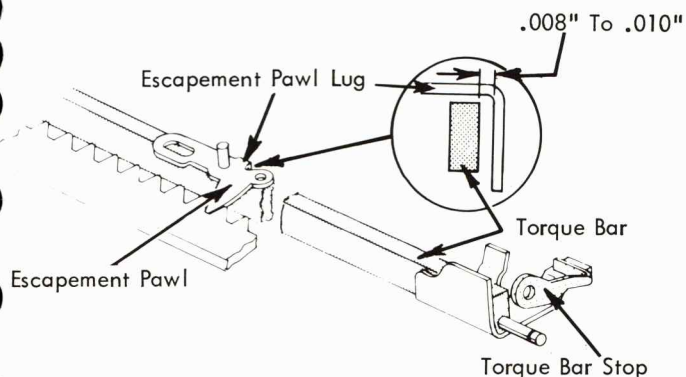

FIGURE 100. Torque Bar Stop (Late)
- a. Late - The torque bar stop located at the right end of the torque bar should be adjusted for a rest position clearance of .008" to .010" between the torque bar and the lug on the escapement pawl (Fig. 100).